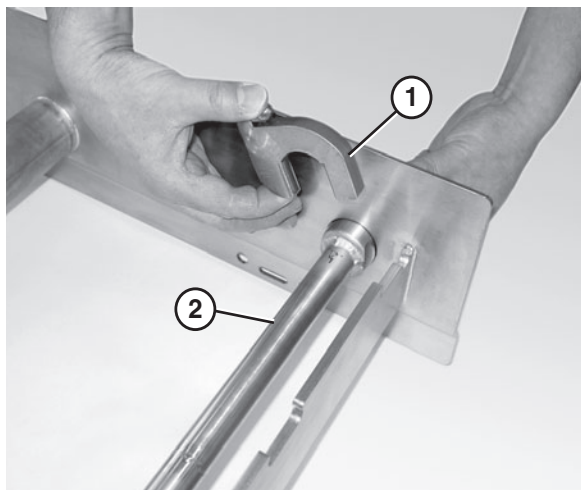

Figure 13
2. Attach the key stops (**Figure 13, item 1**) to the tip up shaft (**Figure 13, item 2**). The rounded end of the key stop should face the tail.